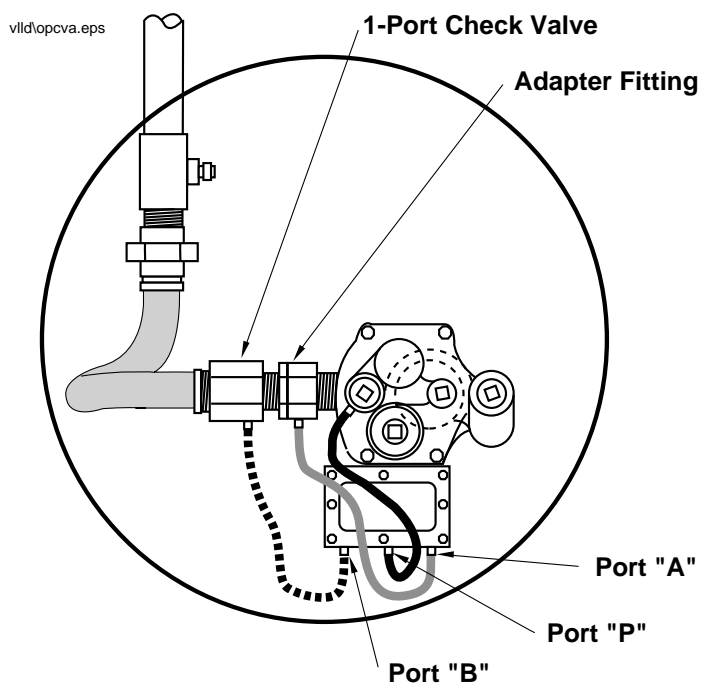

Figure 5. One-Port Check Valve and Adapter Fitting
- ☐ Check valve and adapter fitting with two tubing connections to the controller and one to the STP (used as replacement for the 2-port check valve) [Figure 5 on page 9]